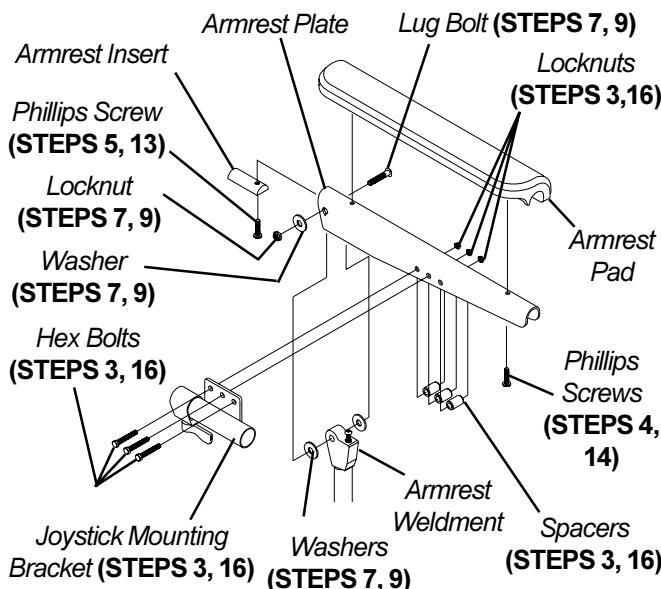

FIGURE 1 - REPOSITIONING MKIV JOYSTICK - VAN SEAT MODELS
REPOSITIONING MKIV JOYSTICK - VAN SEAT MODELS (FIGURE 1)
3. Remove the three (3) hex bolts, spacers and locknuts that secure joystick mounting bracket to armrest plate.
9. Position armrest plate with joystick mounting holes on desired side of armrest weldment and secure with lug bolt, washers and locknut. Refer to FIGURE 1 for correct hardware orientation.
10. Position armrest plate without joystick mounting holes on opposite side of the armrest weldment and secure with lug bolt, washers and locknut. Refer to FIGURE 1 for correct hardware orientation.